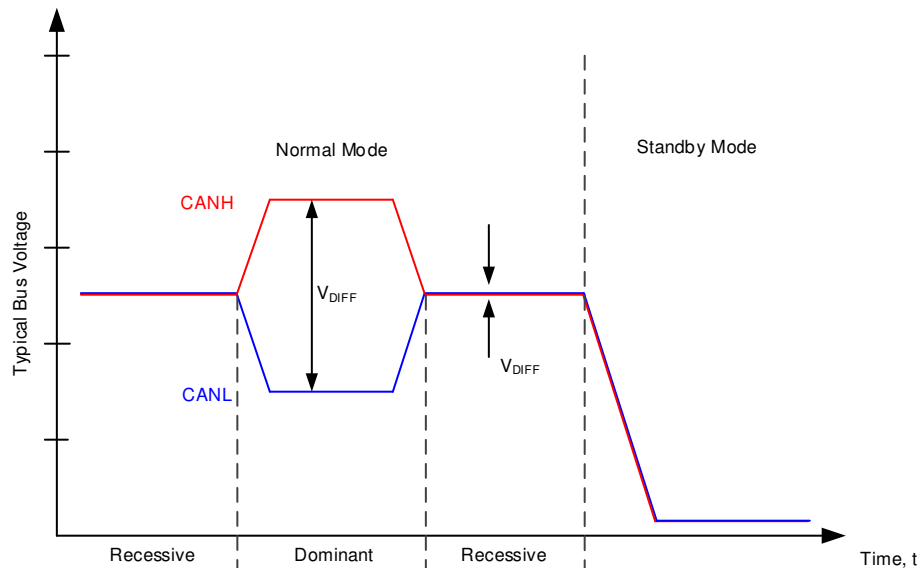

FIG 10-17. Bus States
(1) x = irrelevant
(2) For bus states and typical bus voltages see 图 10-17
The CAN bus has two logical states during operation: recessive and dominant. See 图 10-17.